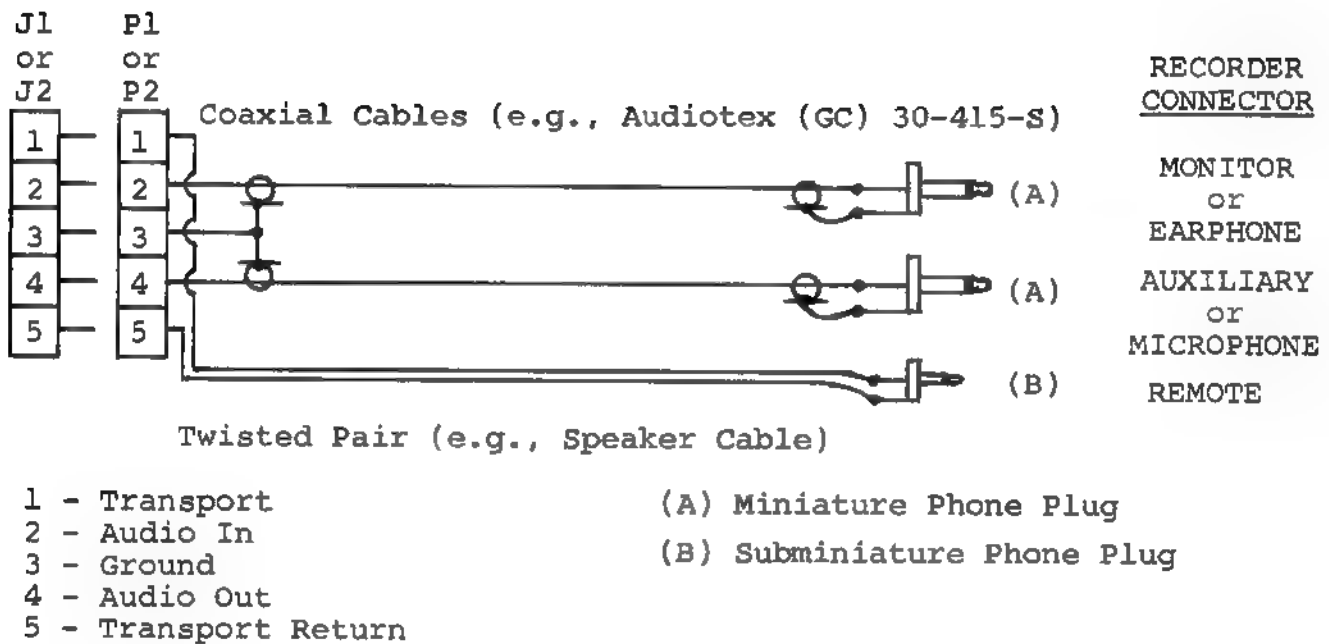

Figure 2-3. CUTS-transport interconnect cabling.
- () Step 26. Using the two female mating connectors supplied for J1 and J2, fabricate one or two, as required by your needs, CUTS-to-Recorder interconnect cables as shown in Figure 2-3 on Page II-18.